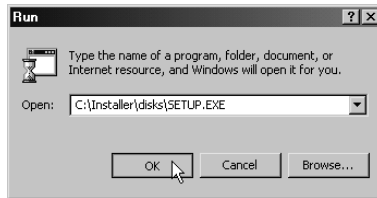

Figure 2-23. Run Modem-TPS
1. On your computer, click **Start->Run** to open the Run dialog box. Click the **Browse** button to find the Modem-TPS setup.exe program, and click **OK** (Figure 2-23).